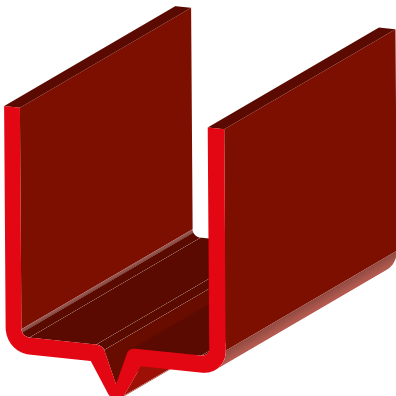

Fig. 8.17
- It is also possible, in order to set the product from one part, to choose to place additional settings in the product. This would, of course, give the product a different appearance. (Fig. 8.17)